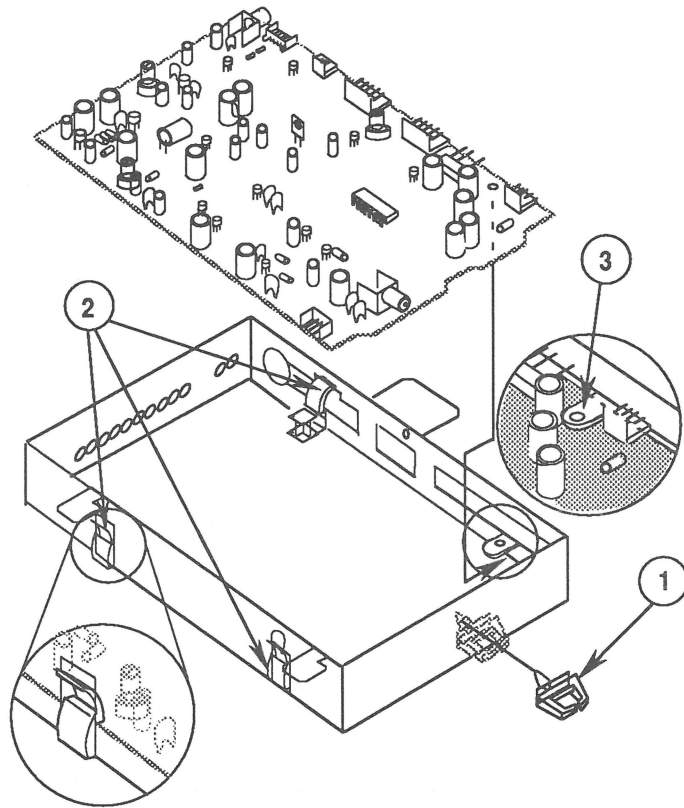

FIGURE 21
12. Using needlenose pliers, remove the plastic cable clamp (Figure 21, #1) from the bottom of the video board case.
13. Place the video board assembly board-side-up on the workbench. Depress the three plastic standoffs (Figure 21, #2), and remove the video board from the metal case.
To do this, insert the right edge of the video board (the edge with the connectors) under the small case mounting bracket (Figure 21, #3), and push the board down until it snaps into place beneath the three plastic standoffs (Figure 21, #2).
2. Replace the cable clamp (Figure 21, #1) in the bottom of the case.